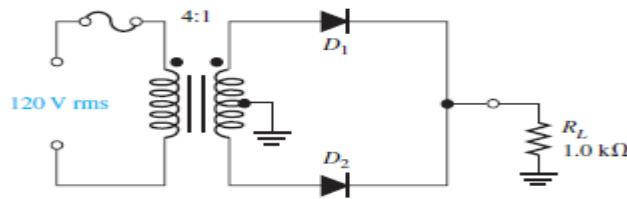

Figure 2-89
16. Consider the circuit in Figure 2-89.